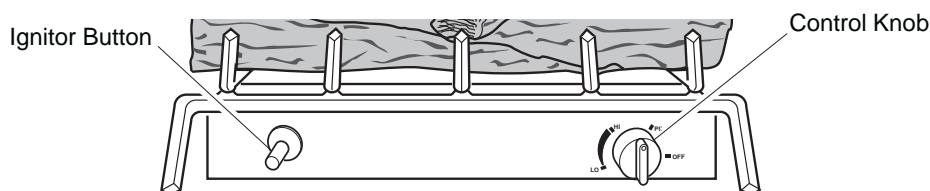

Figure 21 - Control Knob and Ignitor Button Location
4. Wait five (5) minutes to clear out any gas. Then smell for gas, including near the floor. If you smell gas, STOP! Follow "B" in the safety information in column 1. If you don't smell gas, go to the next step.
5. Slightly depress and turn control knob counterclockwise to the PILOT position. Keep control knob pressed in for five (5) seconds (see Figure 21).